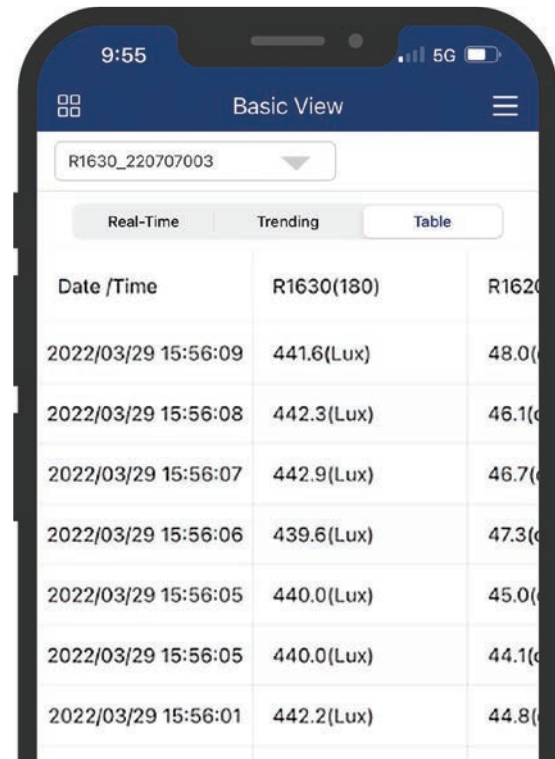

Figure 12
**Table** – The Record feature must be activated to enable this view (See the *Adjusting the Data Logging Sampling Rate* section of this guide for additional details.) Here you can scroll down and across the table to see all data logged measurements. This feature will also show a time and date stamp for each measurement. The sampling rate logged for each measurement will follow the sampling rate established by the user. (Figure 12)